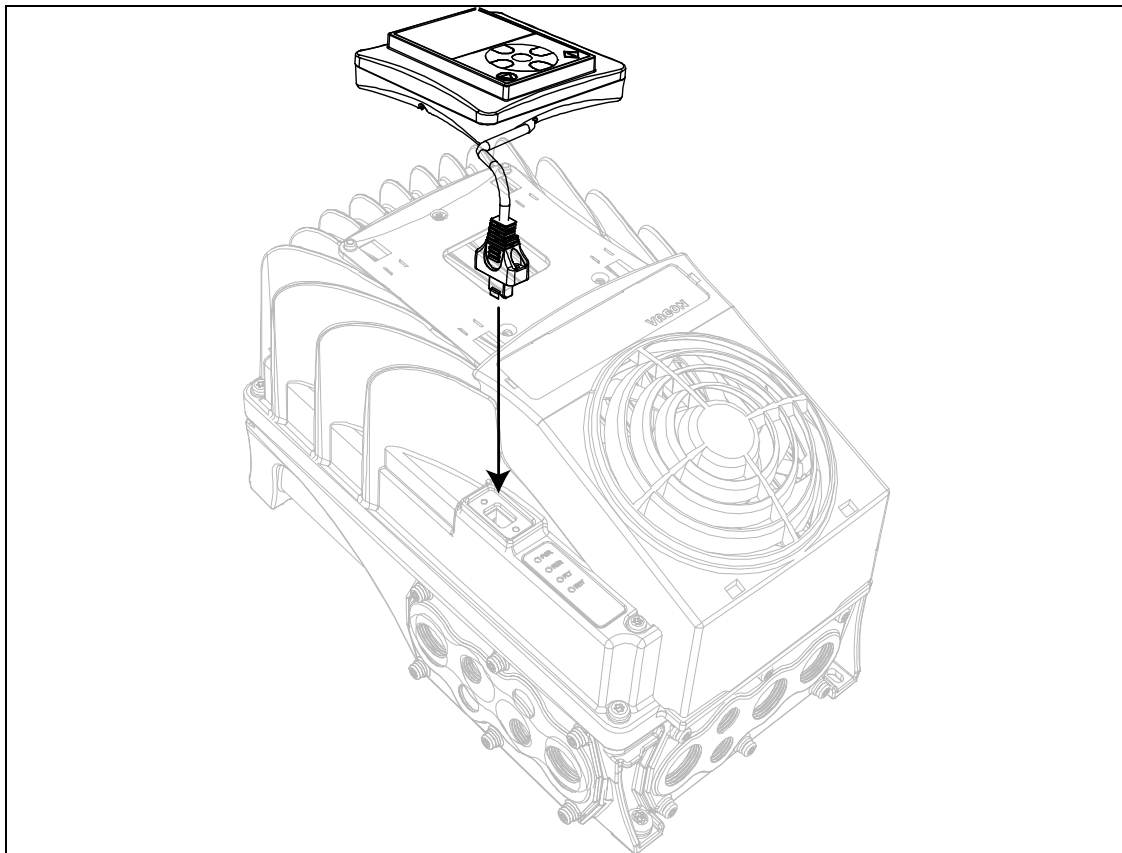

Figure 45. Mounting of the keypad.
- Connect the keypad to the drive and plug the cable on the HMI connector as shown in the Figure 45 and in the Figure 46.